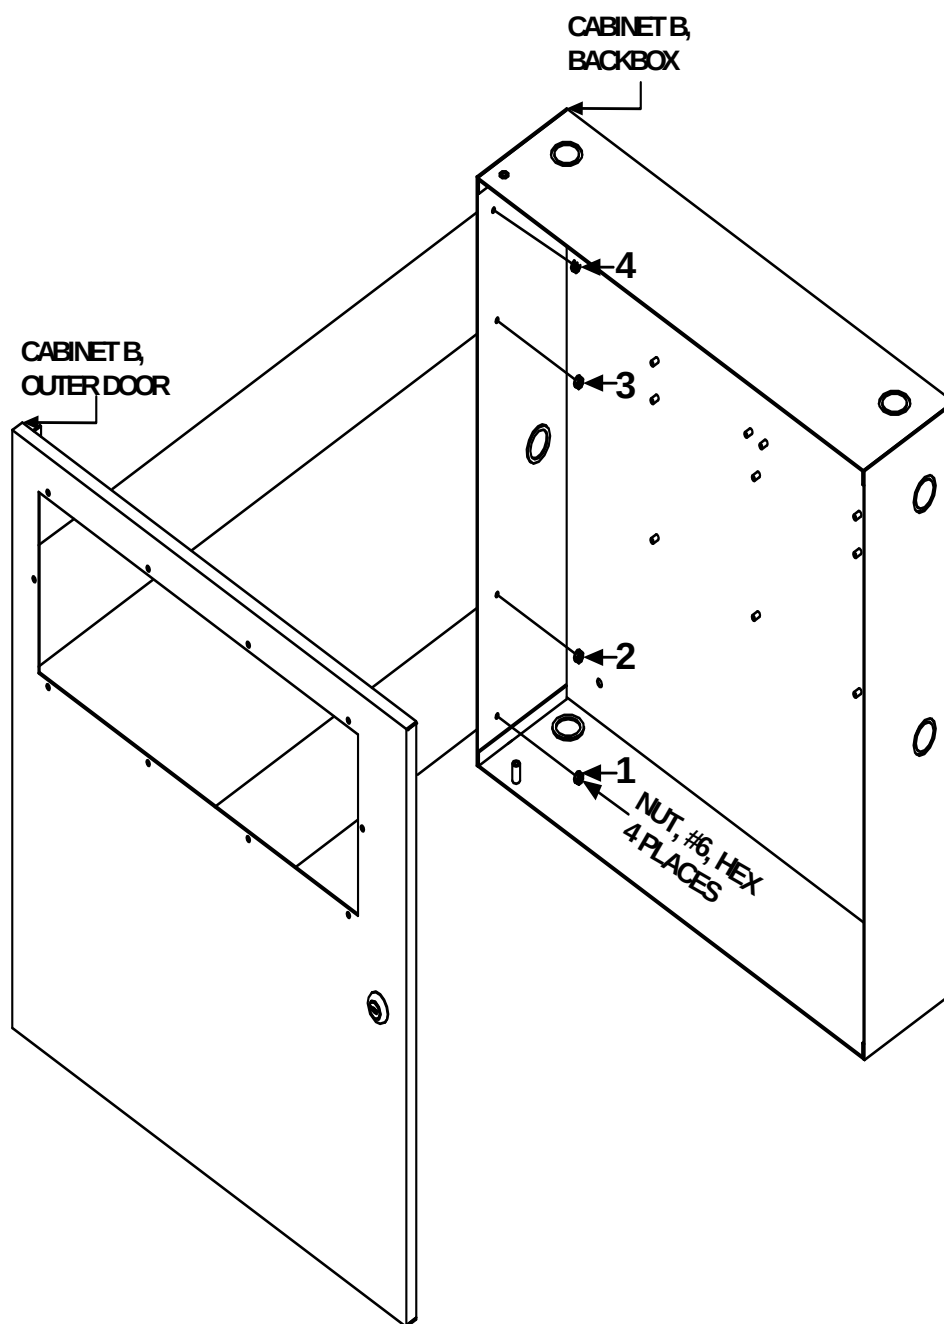

Figure 2.5.6.3.1 Cabinet B, Outer Door Installation
1. Mount the ILI-MB-E3/ILI95-MB-E3 over the standoffs in the backbox and secure the eight, (8), standoffs, (3/16" hex, #4-40 x 1.0") in the eight-hole mounting pattern as shown in Location 1 of Figure 2.5.6.4.2. (Note: PCB orientation).